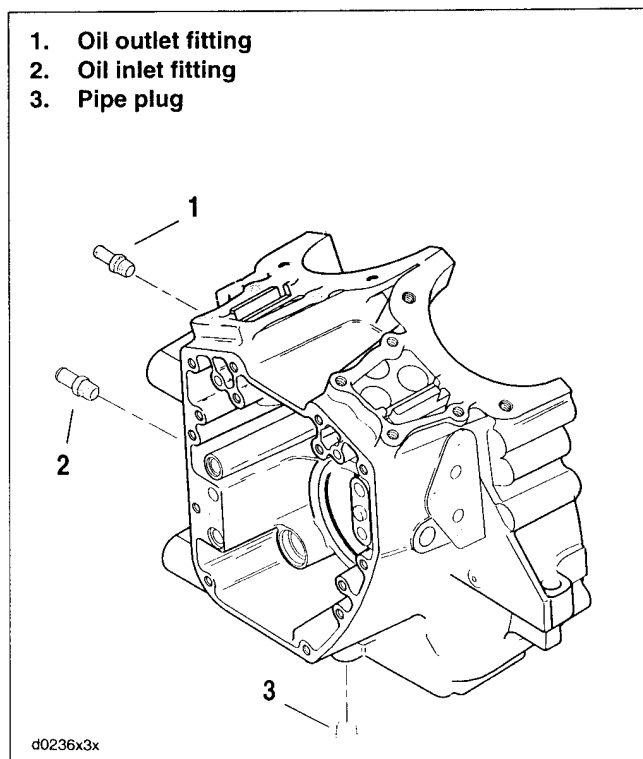

Figure 3-162. Oil Fittings and Pipe Plugs
1. See Figure 3-162. Turn hex on oil fittings (1, 2) in a counterclockwise direction until free.
2. Turn pipe plug (3) counterclockwise until free.